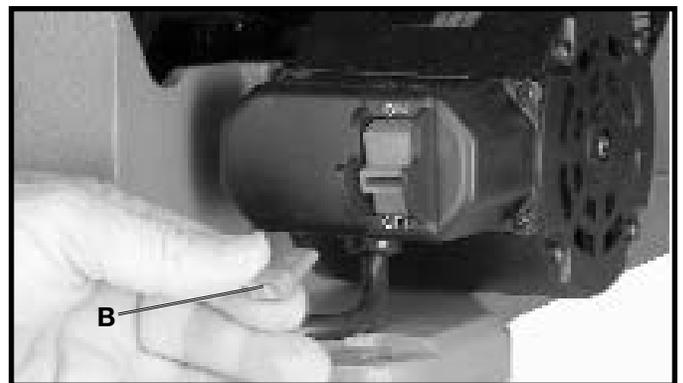

Fig. 12
IMPORTANT: When the tool is not in use, the switch should be locked in the “**OFF**” position to prevent unauthorized use. This can be done by grasping the switch toggle (B) and pulling it out of the switch, as shown in Fig. 12. With the switch toggle (B) removed, the switch will not operate. However, should the switch toggle be removed while the saw is running, the switch can be turned “**OFF**” once, but cannot be restarted without inserting the switch toggle (B).